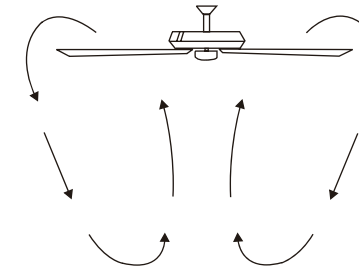

Fig. 29
**Cool Weather Operation:** “Reverse” (fan rotates clockwise). An upward airflow moves warm air off the ceiling areas as shown in **Fig. 29**. This allows you to set your heating unit on a cooler setting without affecting your general comfort.